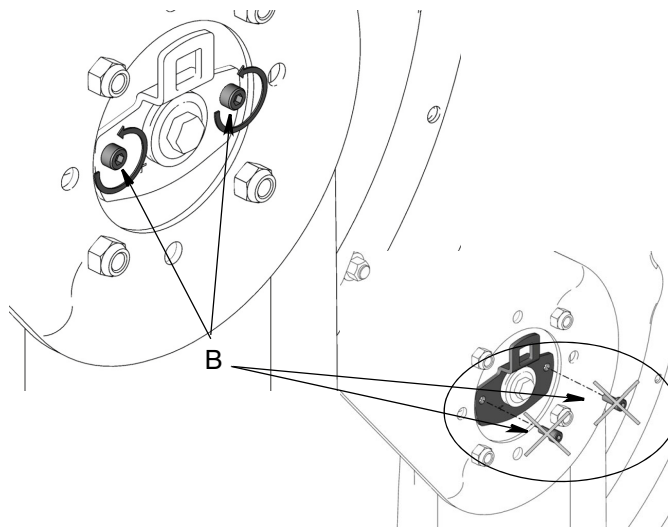

FIG. 11
2. If they are not already loose, loosen (B) 3-5 turns. Do not remove (B) yet (FIG. 11).